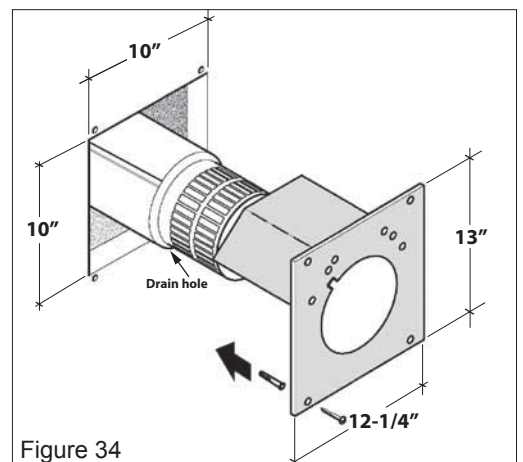

Figure 34
3. Fit the vent unit fully over the appliance inlet and outlet collars pushing on firmly. Make sure that the drain hole is at the bottom—the seam will be through the notch in the wall plates. See figure 34.
3. Slide the appliance/terminal into the wall. Make sure that the drain hole is at the bottom—the seam will be through the notch in the wall plates. See figure 34.
7. Bend the outer wall plate tab as shown in figure 34.
10. Screw the plate to the wall with four screws provided. See figure 34.